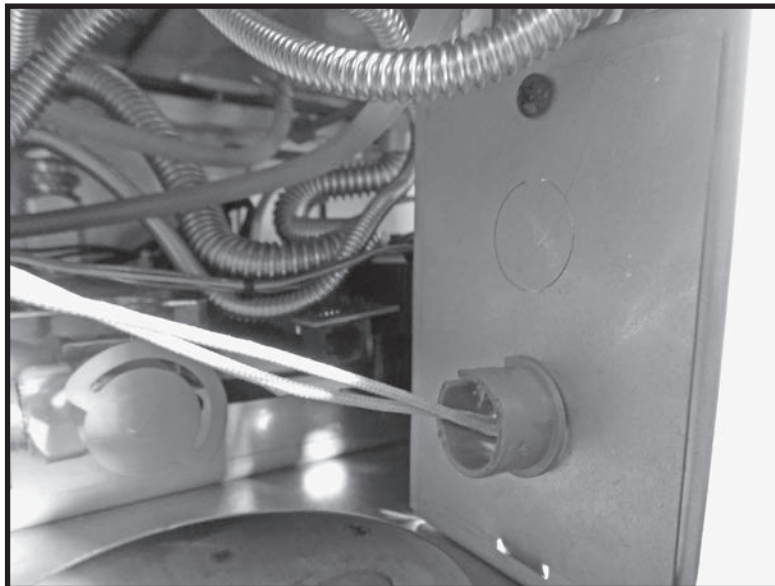

Figure 6: Threading wires through knockout.
5. From inside the control compartment, punch out one of two available knockouts located in the electrical connection compartment, install a plastic grommet (not included) to protect the wires and feed the wires into the compartment. (Figure 6).